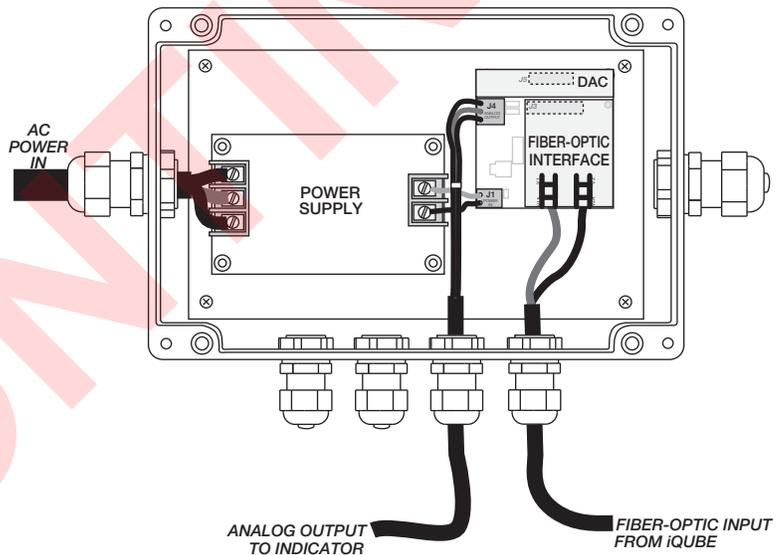

Figure 4. *iQUBE* Remote Fiber-Optic Module
5. Set *Weight value at Zero Output*, *Weight Value for Max Output*, *Averaging Value*, and *Source System* in the *Analog Output* section of Revolution III. See Figure 4.
5. Connect fiber optic cables from *iQUBE* to the black receive (V1 - Detect) and blue transmit (V2) connectors of the fiber optic interface card (see Figure 4). The flashing red fiber optic cable connects to V1 of the interface card.